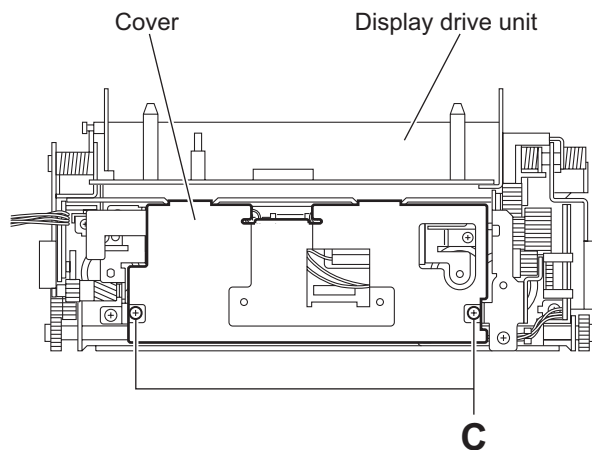

Fig.5
3.2.3 Removing the cover (See Fig.5)